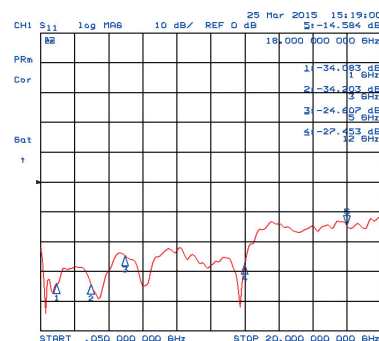

figure 3
- d) Current return loss values inside the gate are transformed back from the time domain to the frequency domain (figure 3), representing the return loss from a defined position within the DUT.